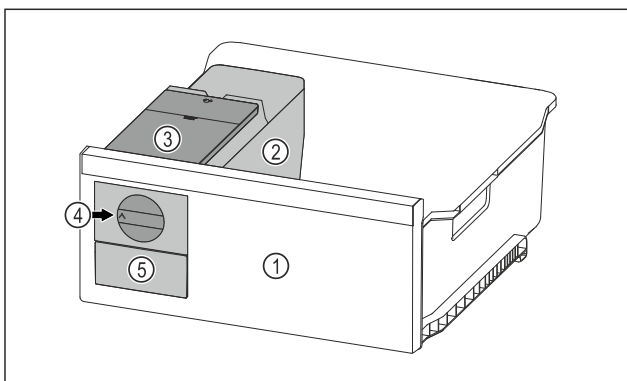

Fig. 74 Example illustration
▶ Turn the rotary knob Fig. 74 (4) clockwise as far as it will go.
▷ Ice cubes fall from the ice cube tray into the ice cube drawer Fig. 74 (5).